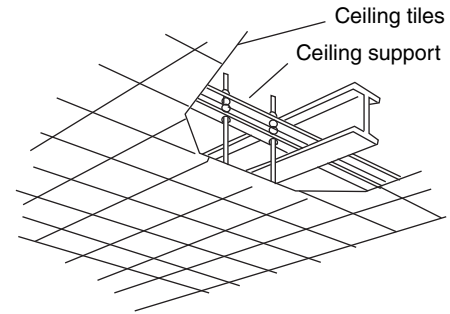

Fig. 3-121
- Use existing ceiling supports or construct a suitable support as shown in Fig. 3-121.